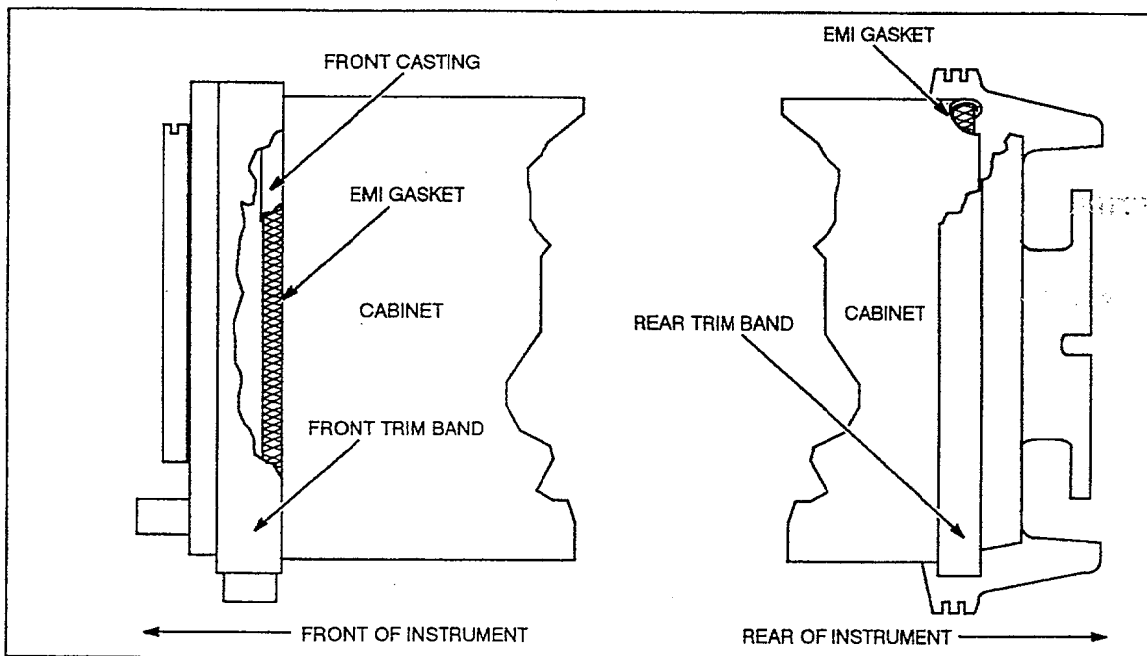

Figure 6-2a: Placement of cabinet on EMI rope gasket. .
- b. Align the front edges of the cabinet with the EMI rope gasket (see Fig. 6-2a).